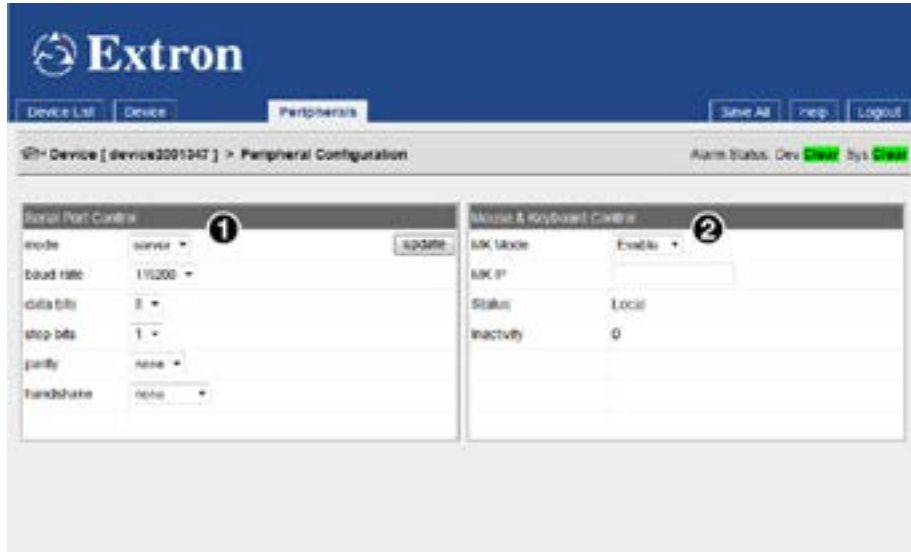

Figure 26. Peripherals Tab
Select a serial port mode (see figure 26, 1, on the previous page):
VNM 250 products have the capability to forward mouse and keyboard information from a display device to a source device (see figure 26, ② on page 42). This allows a source (PC) to be controlled remotely from the display location.